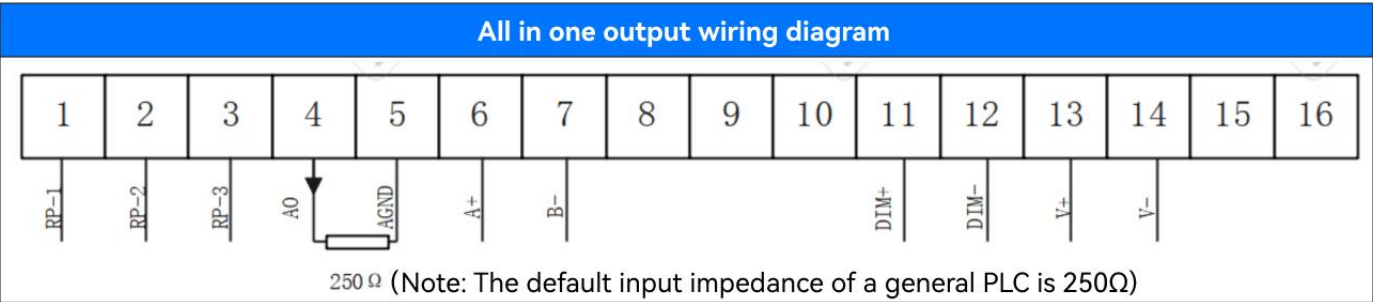
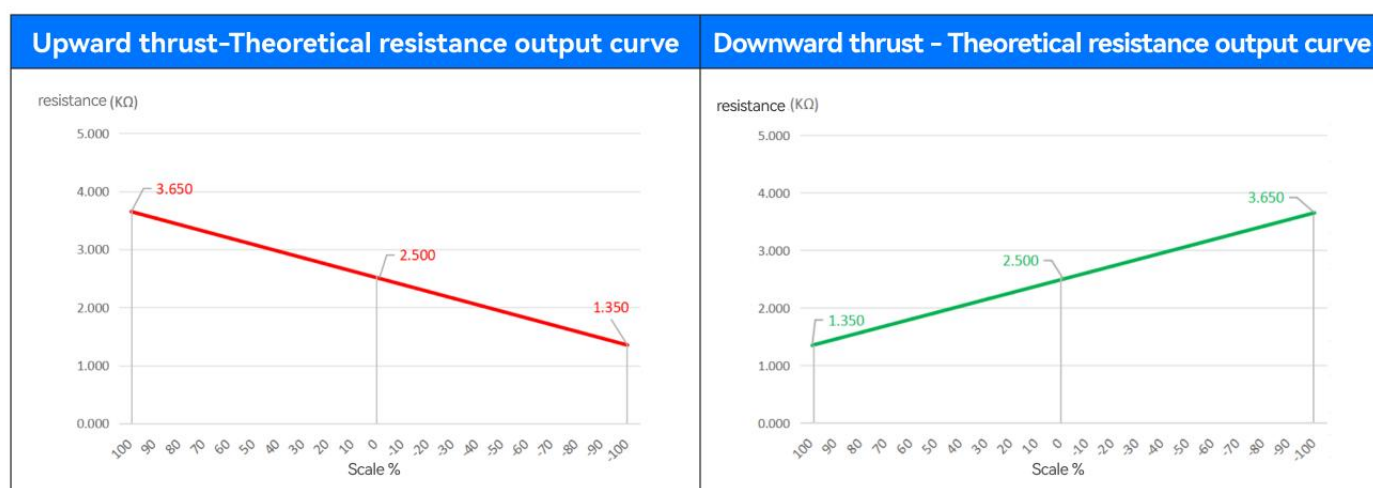
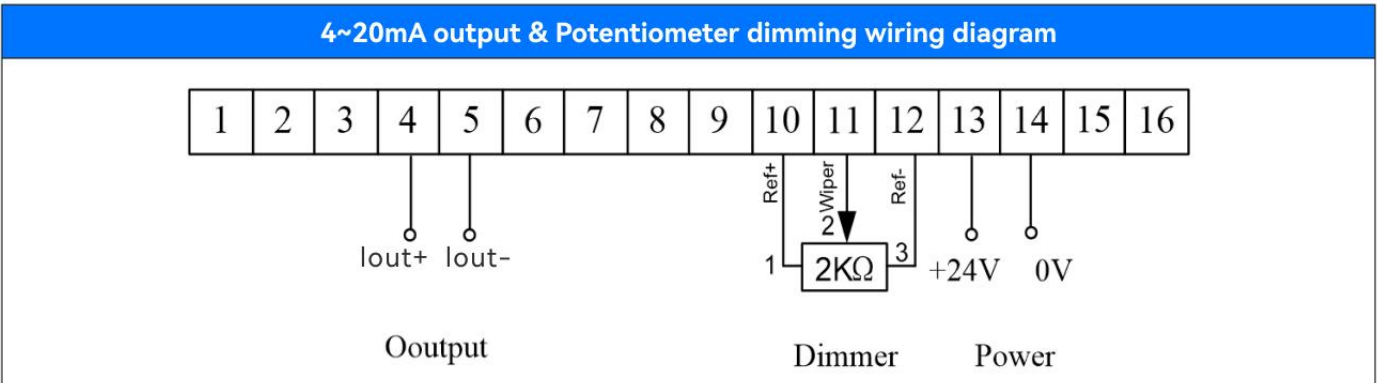

Figure 1.5
Figure 2.1
Figure 2.6
5. Output mode: direct potentiometer linear output, linear relationship with the scale, the theoretical output is shown in Figure 2.1, the actual output is seen in the product factory inspection report.
6. Output signal: The handle can provide a variety of optional output signals for the control system, including the potentiometer direct output, 4~20mA. Please refer to Figure 1.5 for the connection of the direct output type of potentiometer, and Figure 2.1 for the corresponding relationship. Figure 2.6 shows the cable connections for 4 to 20mA outputs. Under normal circumstances, the corresponding relationship of the output signal is: the scale -100% corresponds to the 4mA output, the scale 0 corresponds to the 12mA output, and the scale +100% corresponds to the 20mA output.
7. Backlight adjustment mode: the thin film of the handle adopts cold light source design, the brightness can be adjusted, and the dimming mode includes resistor adjustment (among which the dimming mode of the resistor is only suitable for our model VDM-96 dimmer, the resistance value is 2KΩ, the wiring is shown in Figure 1.5), 0-24V voltage adjustment, PWM. For 0-24V dimming signals, the dimming signal is the darkest at 0V and the brightest at 24V. Note that the dimming signal and the power signal cannot be shared, otherwise the handle signal output will be affected, resulting in failure to work normally. The wiring is shown in Figure 2.7.
3. According to the characteristics of the accessories used in this product, the instantaneous input voltage shall not exceed 20% of the range specified in Figure 1.5 at any time. Avoid excessive instantaneous current and burning accessories.